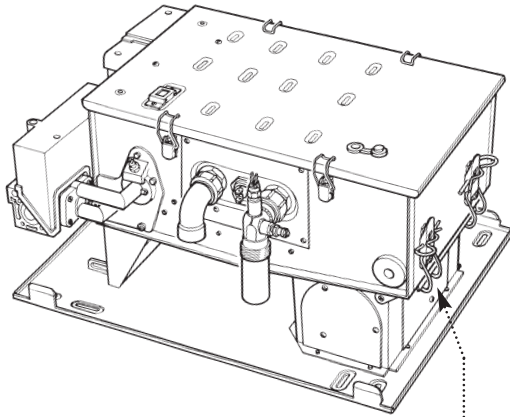

Fig. 14
4. Release the R clips from the two latches securing the combustion box to the back plate and release the latches (Fig. 14).